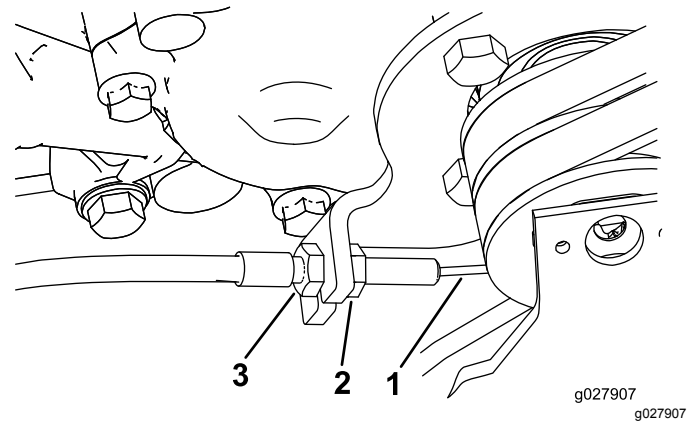

Figure 49
3. To increase the cable tension, loosen the front-cable jam nut and tighten the back-cable jam nut (Figure 49) until a force of 8 to 9 N·m (6 to 7 lb) is created to engage the traction control.